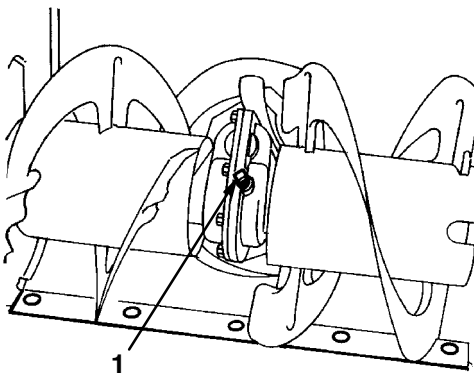

Figure 20
3. Clean the area around the pipe plug (Fig. 20).
4. Remove the pipe plug from the gear box (Fig. 20).